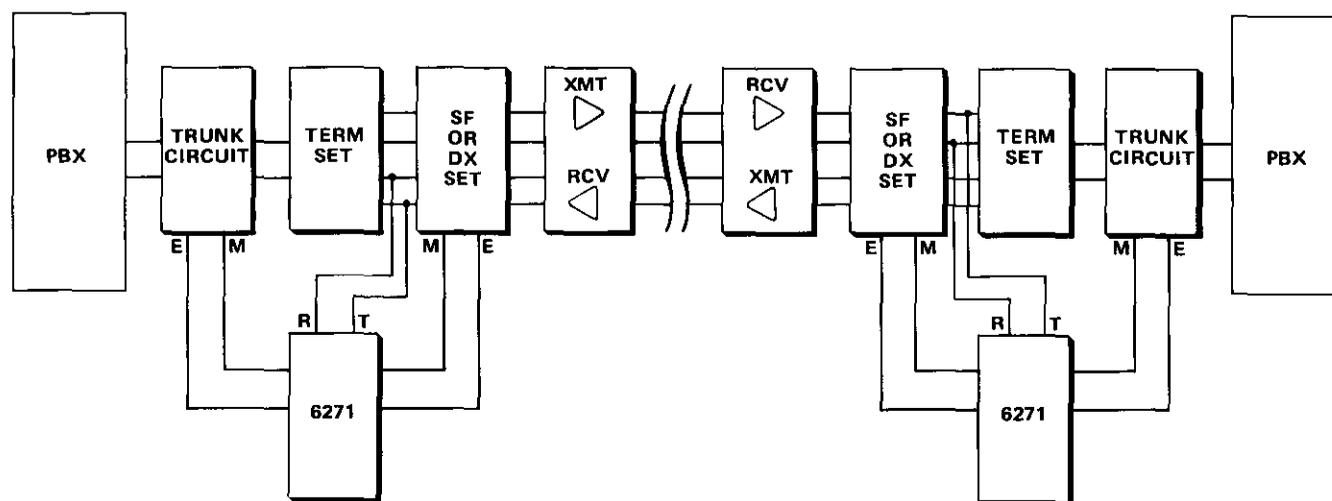

figure 2. Typical application in which 6271 modules are used at both ends of a PBX tie-trunk circuit
2.04 The remainder of this section describes the operation of the 6271 during incoming and outgoing call set-up and release. (For purposes of explanation, normal E&M-lead operation and Type I E&M interfacing are assumed.) Figure 2 shows a typical application in which 6271 modules are used at both ends of a PBX tie-trunk circuit.